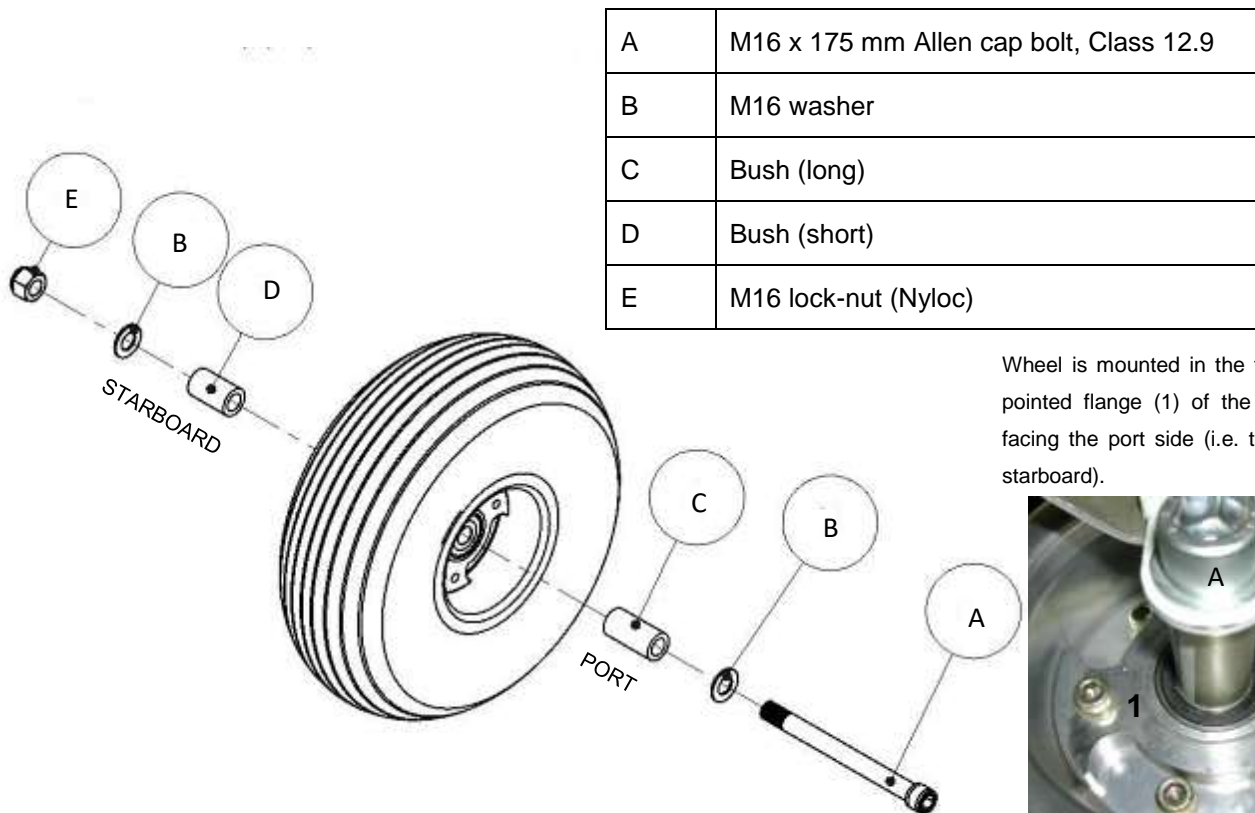

Figure 40: Nose wheel installation.
- Observe the correct placement of washers and bushes and the correct orientation of the nose wheel (refer to Figure 40). Note that the lock-nut faces the starboard side of the aircraft.